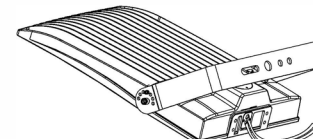

Figure 10
Step 2. Install two smaller set screws (Figure 10)